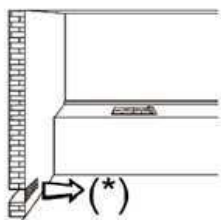
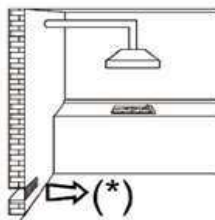
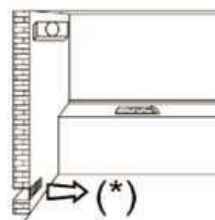

FIG. 3
FIG. 4
FIG. 5
- Use of a gas cooking appliance produces heat and moisture in the room in which it is installed. The room must therefore be well ventilated by keeping the natural air vents (see FIG. 3) and by activating the mechanical aeration device (suction hood or ventilating fan FIG. 4 and FIG. 5).